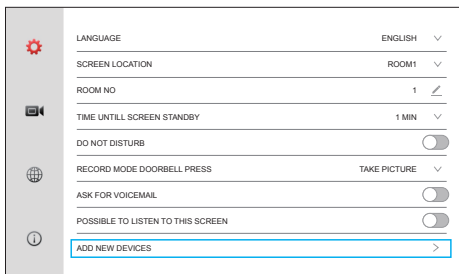
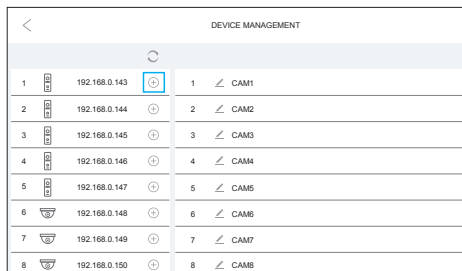

Figure 1
Figure 2
Step 1: At the standby state, press to enter system main menu, Click to enter the interface as Figure 1, then click "ADD NEW DEVICES" to see Figure 2.